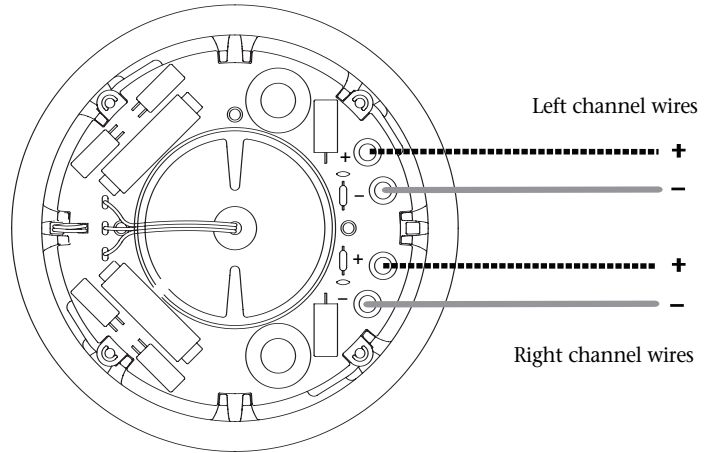
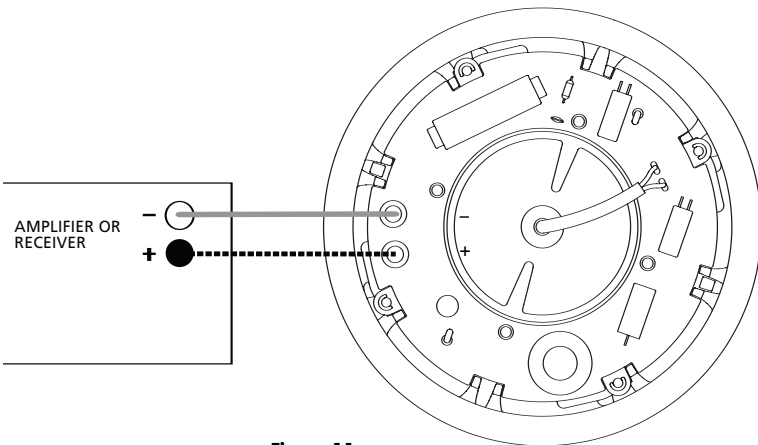

Figure 11b
Figure 11a
- Once you have cut the hole, pull the speaker wire out of the hole and connect the speaker. Strip 1/2" (12 mm) of insulation from each of the two conductors of the wire to expose the bare metal and twist each of the conductors into a single unfrayed strand. Note that one of the terminals on the rear of each speaker is marked red (+) and the other black (-). Make certain that you connect the wire from the red terminal (+) of your amplifier or receiver to the red terminal (+) on your speaker and the wire from the black terminal (-) of your amplifier or receiver to the black terminal (-) on your speaker. Most wire has some indicator (such as color-coding, ribbing or writing) on one of the two conductors to help you maintain consistency [Figure 11a]. In the case of the Di 6.5STR single speaker stereo model, both left and right channel speaker wires are connected to the speaker [Figure 11b].